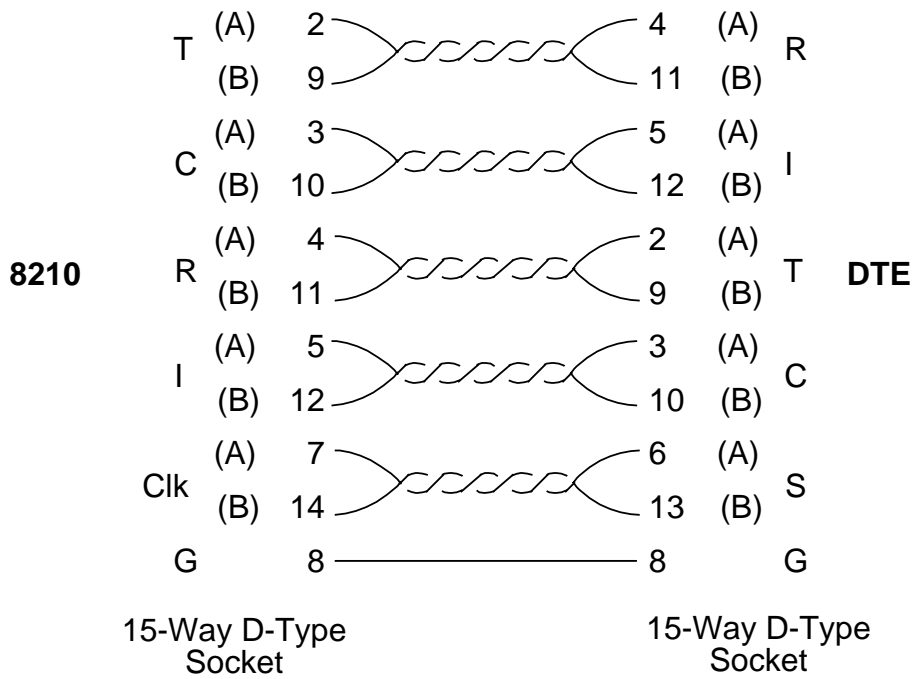

Figure B-8 Composite to X.21 DTE Cable
- (8) 8210 Card to X.21 DTE (8210 Card provides clock) use cable X818-400511, Figure B-8.